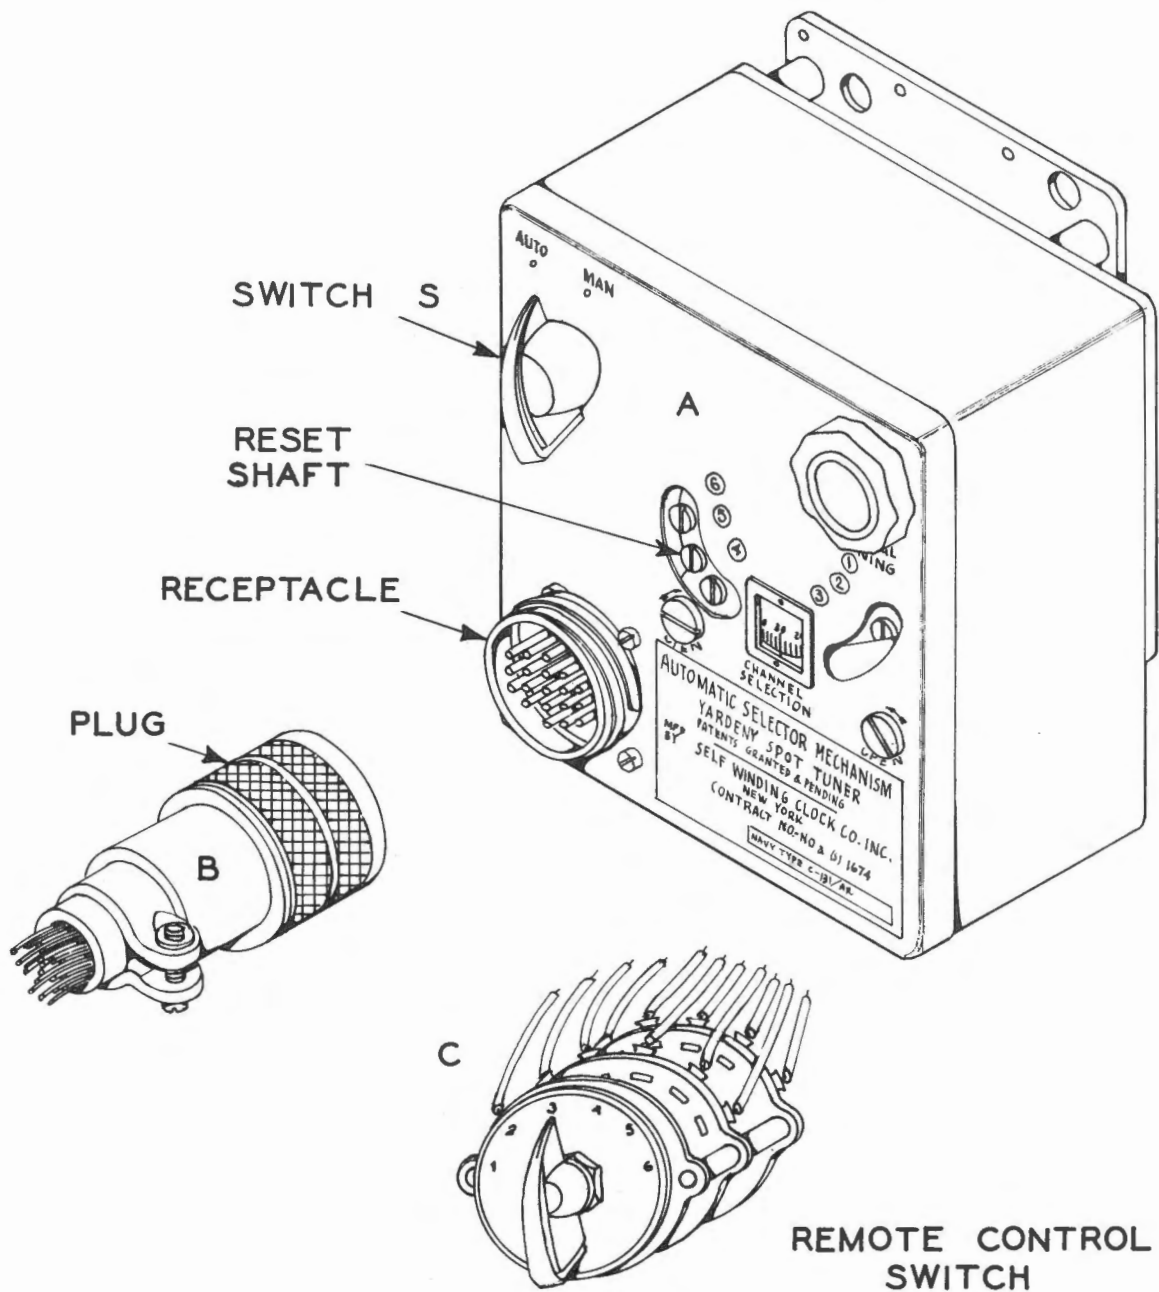

Figure 4 — Automatic Selector Mechanism with Plug Connector and Remote Control Switch
a. **PURPOSE OF MANUAL.**—This manual has been prepared to supply information to authorized personnel on the installation, adjustment and operation of the Automatic Selector Mechanism (Spot Tuner). See Fig. 4.